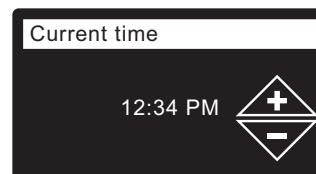

FIG. 24
19. **CURRENT TIME** Press the DOWN (▼) or UP (▲) buttons to set the current time (See Figure 24). Hold the button down to rapidly advance. Be sure that AM or PM is correct. If the system units were set to metric in Step 17, the clock will be in 24-hour format.
20. Press the SELECT (O) button.